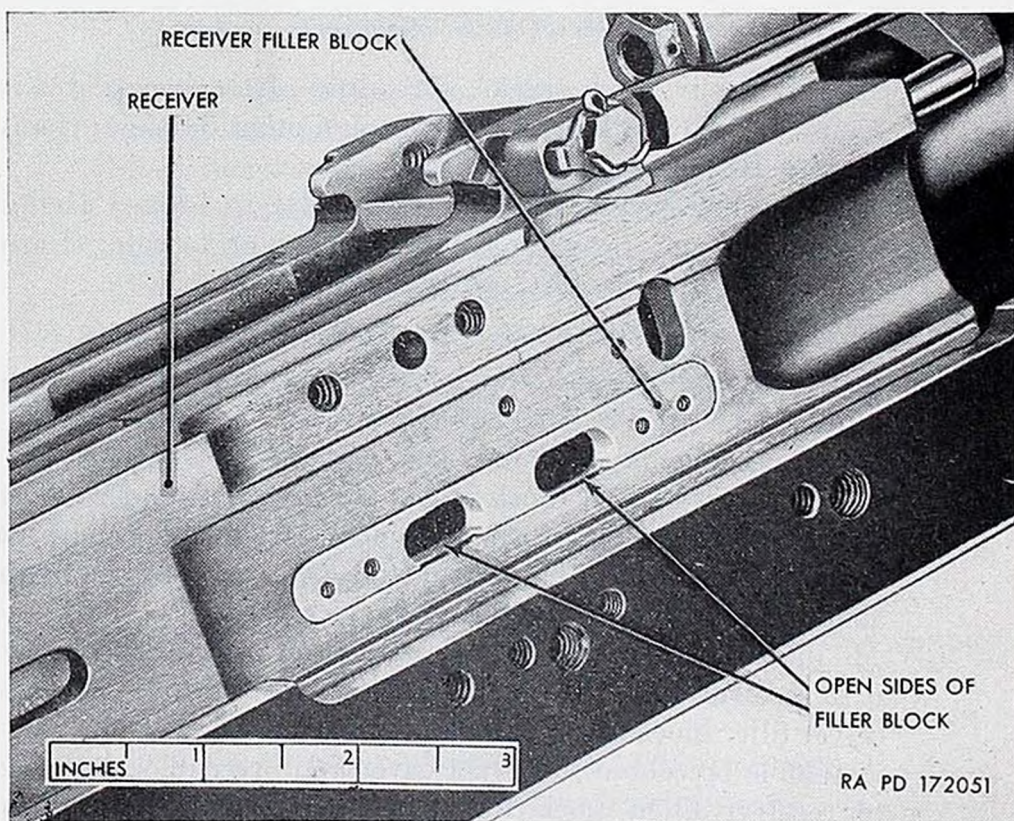

Figure 101. Installation of filler block in receiver.
- (1) If the breechblock is already in the gun, first remove guide plunger and driving spring(s) (par. 66a) and unlock breechblock and move it to the rear (par. 70c).
- (2) Install receiver filler block in slot through inside of receiver so that the open sides of the filler block face the bottom of the receiver (fig. 101). The upper and lower part of the block should fit neatly into the slot in the receiver.